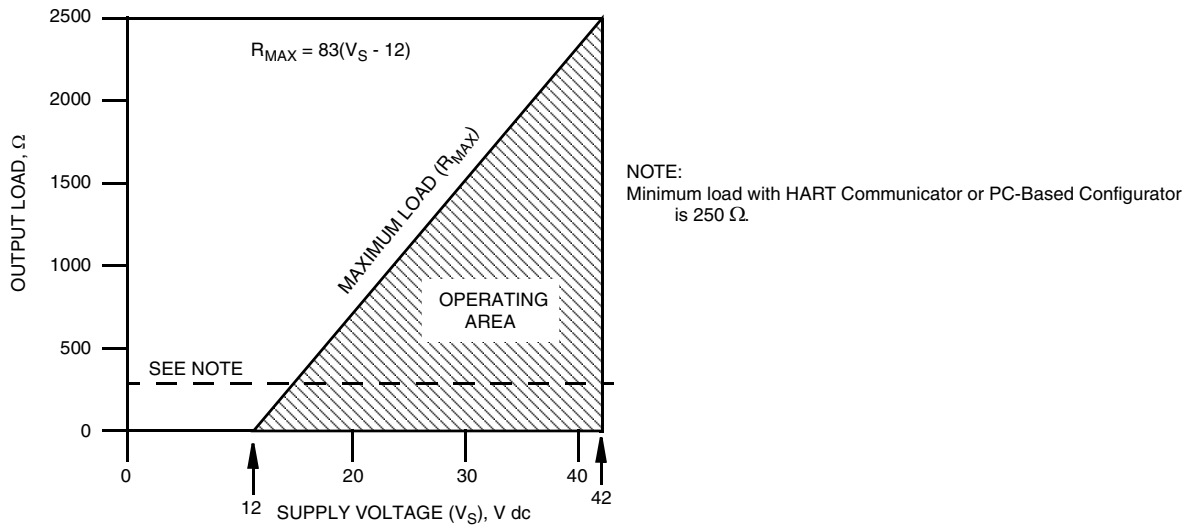

Figure 14. Voltage and Load Limits
When wiring a transmitter with 4 to 20 mA output signal, the supply voltage and loop load must be within specified limits. The supply voltage vs. output load relationship is shown in Figure 14. Any combination of supply voltage and loop load resistance in the shaded area can be used. To
1. Connect the transmitter to a 24 V dc power supply (see Figure 14 for allowable power supply voltage and output load limitations).